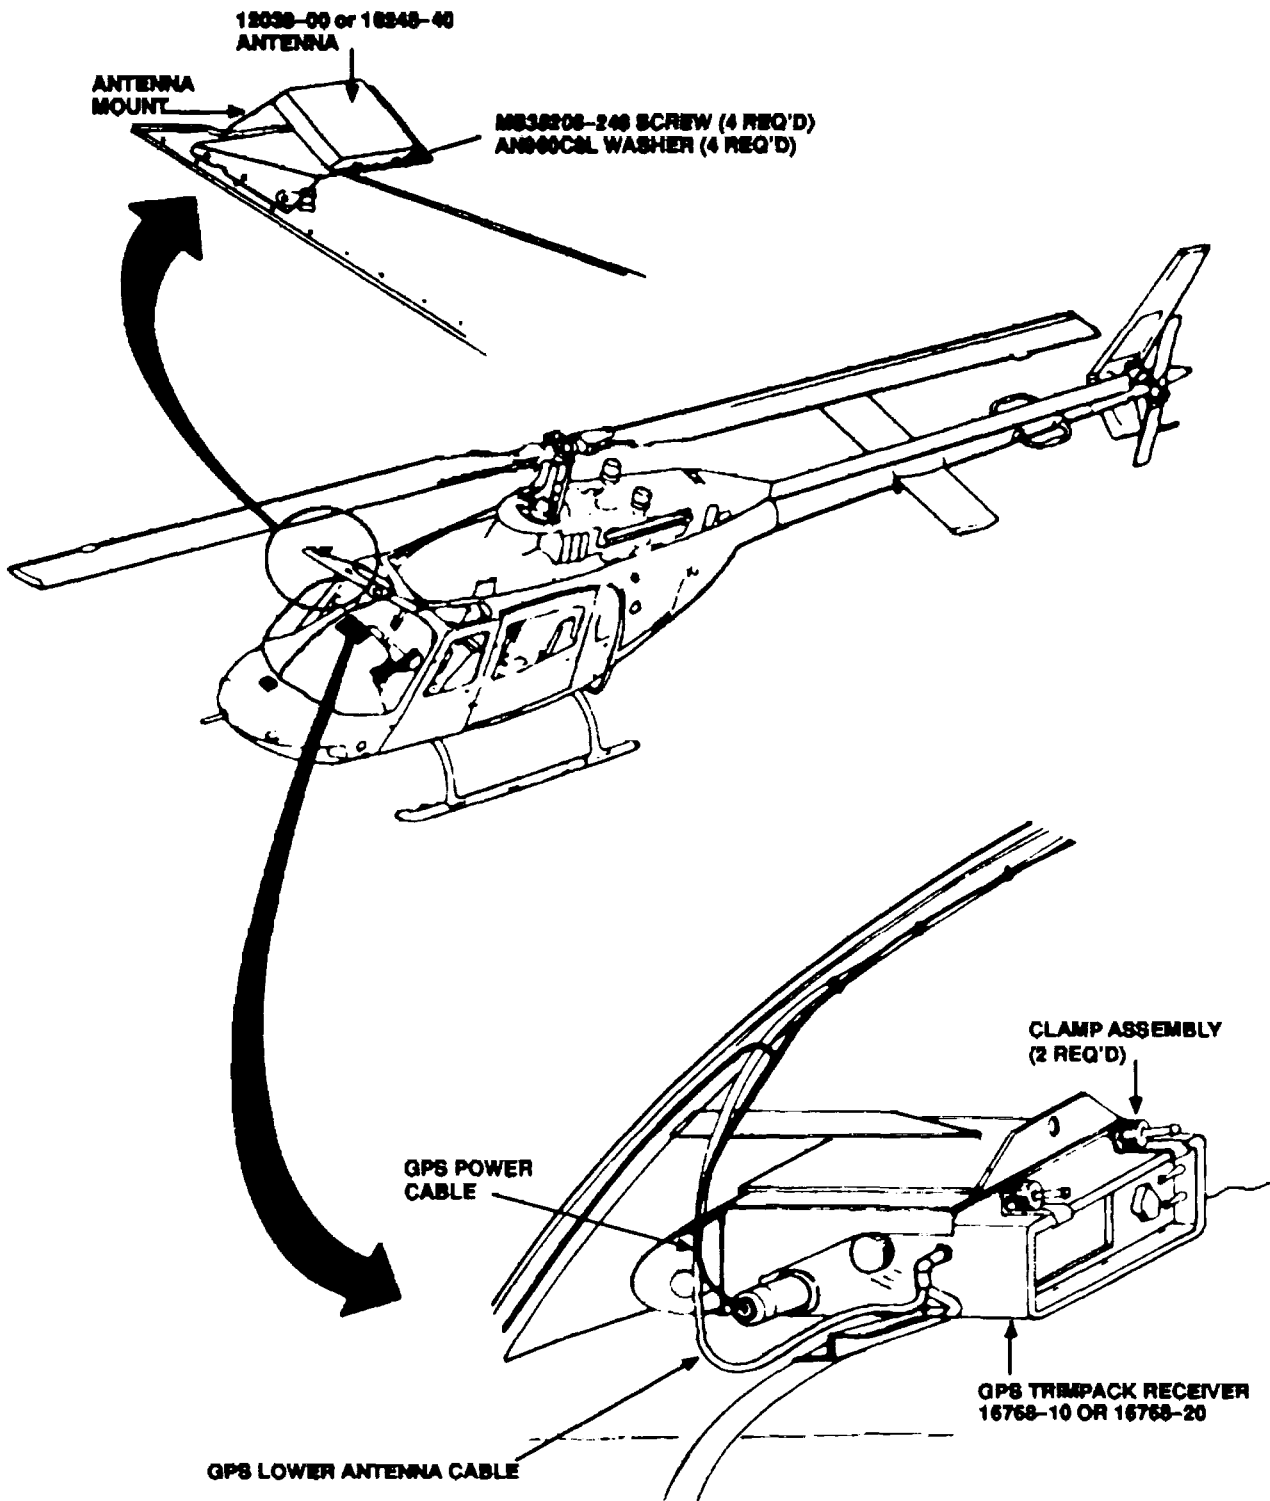

Figure 6. GPS Antenna and Trimpack Receiver Installation.
c. Install GPS antenna on mount (Figure 6).
d. Secure with four screws (P/N MS35206-248) and four washer (P/N AN960C8L) (Figure 6).
f. Install GPS Trimpack receiver in mount and secure with clamp assemblies (Figure 6).
g. Connect power and antenna cables to receiver (Figure 6).